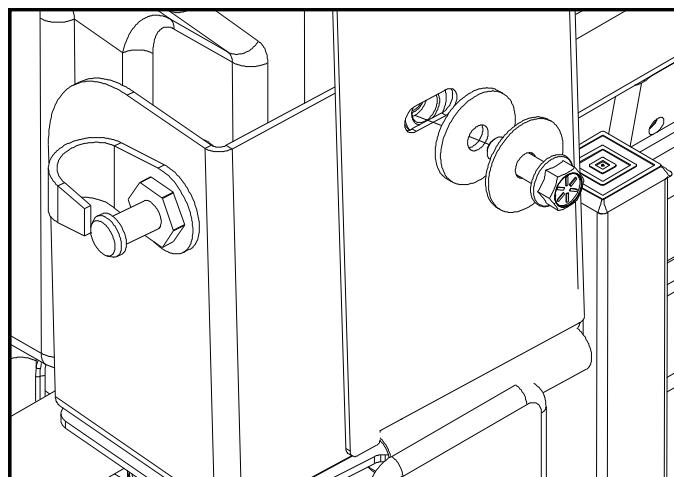

Fig. 8
8. Install (1) 5/16-18 screw, fender washer, and rubber washer through the slot on the lower left side of the rear panel and into the threaded insert in the door striker mount (see fig. 8).